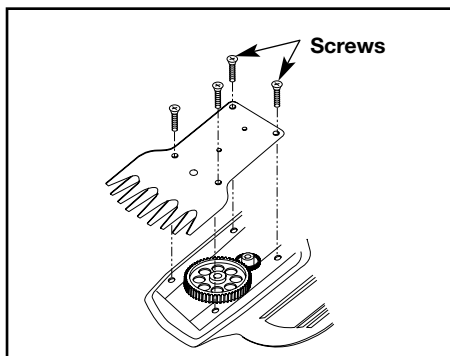

Fig. 11
2. Remove the four screws on the bottom of the shears (Fig. 11). Wear heavy gloves. Carefully lift the blades out of the unit. Leave the washer on the gear post.
4. Clean any grass from the bottom of the case. Rotate the large gear to line up the post with the slot in the moving blade (Fig. 11).
7. Replace and tighten the four screws to secure the blades (Fig. 11).
3. Lift the old blades out of the unit (Fig. 11). Leave the washer on the gear post.